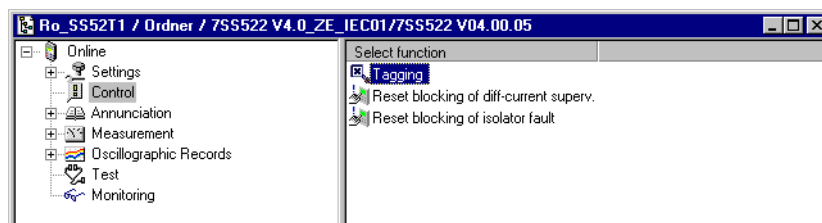

Figure 6-24 Reset blocking of differential current supervision using DIGSI
- Click **Control** in the navigation window.(see Figure 6-24, page 267).
- ❑ Click **Control** in the navigation window.(see Figure 6-24, page 267).